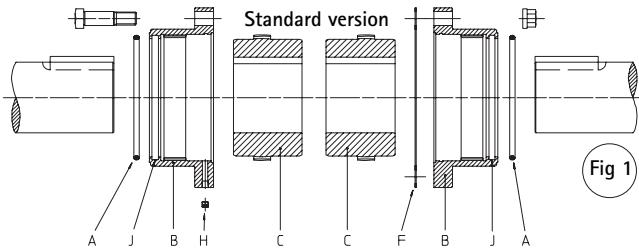

Fig 1
4.1.4 Install hubs C on their respective shafts with the longest hub end towards shaft end or towards machine bearing depending on the type (see fig. 1 and 3). If needed, for keyway assembly, uniformly heat hubs C (max 120°C) to install them easily on the shaft, in this case, avoid any contact between the hub C and O-Ring A. Hub faces have to be flush with shaft end. In case of doubt, please consult us. Introduce setscrew on key with Loctite and tighten properly. In case of interference fit, refer to ESCO for proper instructions.